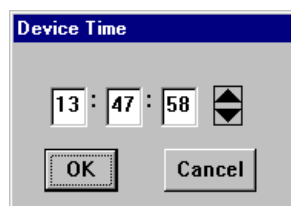

Figure 2-10. Edit Time Window
1. Click on **Device** on the Module View window menu bar to access the Device menu, drag down to **Edit Device Time...**, and release. The following change window, Figure 2-10, will appear.